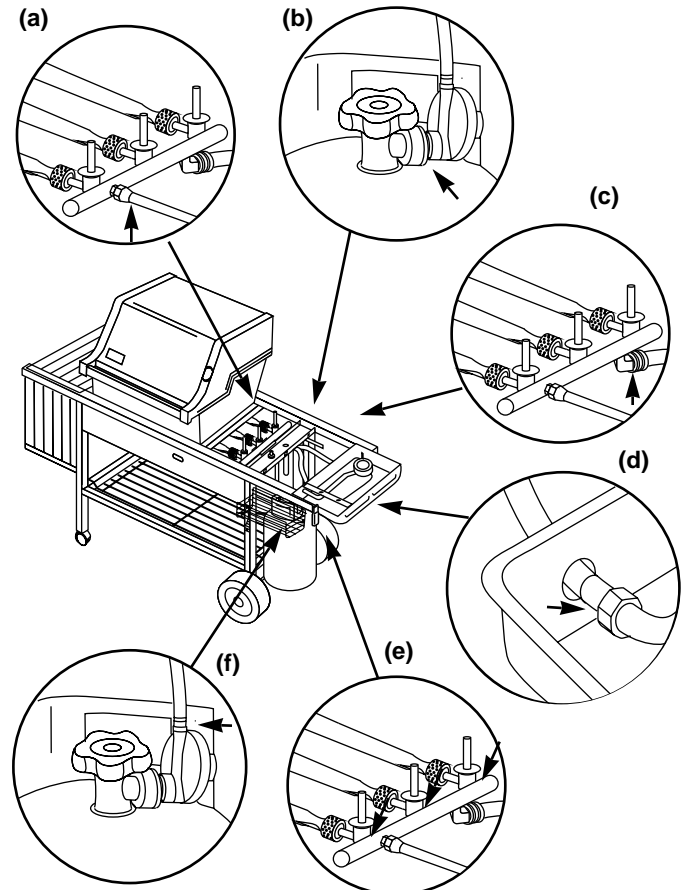

Figure 10
- Hose to manifold connections. Figure 10 (a).
- Regulator to tank connection. Figure 10 (b).
- Manifold to side burner hose connection. Figure 10 (c).
d) Side burner hose to side burner connection. Figure 10 (d).
e) Valves to manifold connection. Figure 10 (e).
f) Hose to regulator connection. Figure 10 (f).